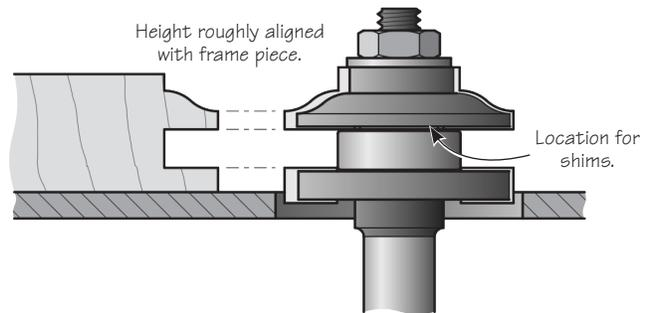

Figure 7: Bit assembled for coping cut.
6. Reassemble the router bit for the coping cut (i.e., cutting the end grain of the rails and mullions), as shown in **Figure 7**. Set the bit height to approximately match a previously cut frame piece. Run a length of scrap through to test the cutter spacing.